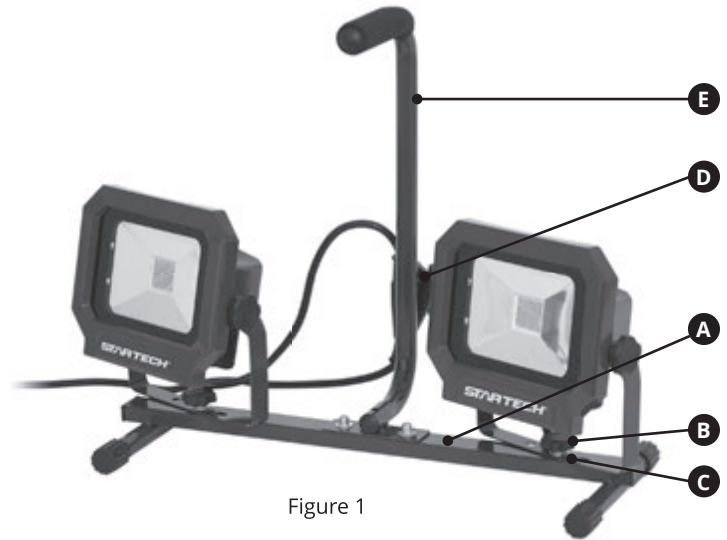

Figure 1
1. Attach carrying handle (E) to base (A) with bolts
3. Attach lights using 2 lock knobs (B) inserted through holes in brackets (C) into threaded holes in base (see figure 1). Fasten with flat washers and lock washers.
4. Use long knob (D) to fasten power cord to handle through hole in Y connection